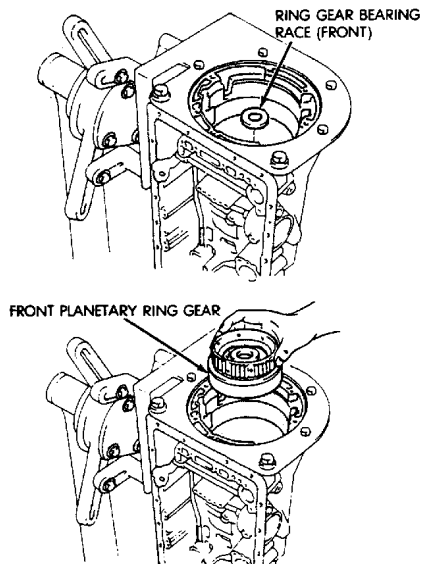

Fig. 34 Removing Front Planetary Ring Gear
- (42) Remove front planetary ring gear front bearing race and remove front planetary ring gear (Fig. 34).